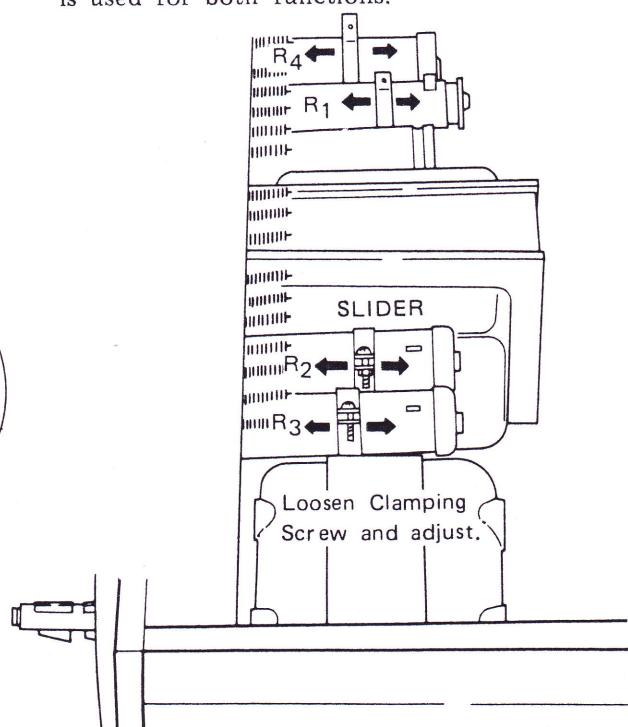

Fig. 21
3. Adjust slider (R_2 500Ω) so that the gauge reads 93 ~ 110g (280 ~ 330g.cm) (Fig. 21).